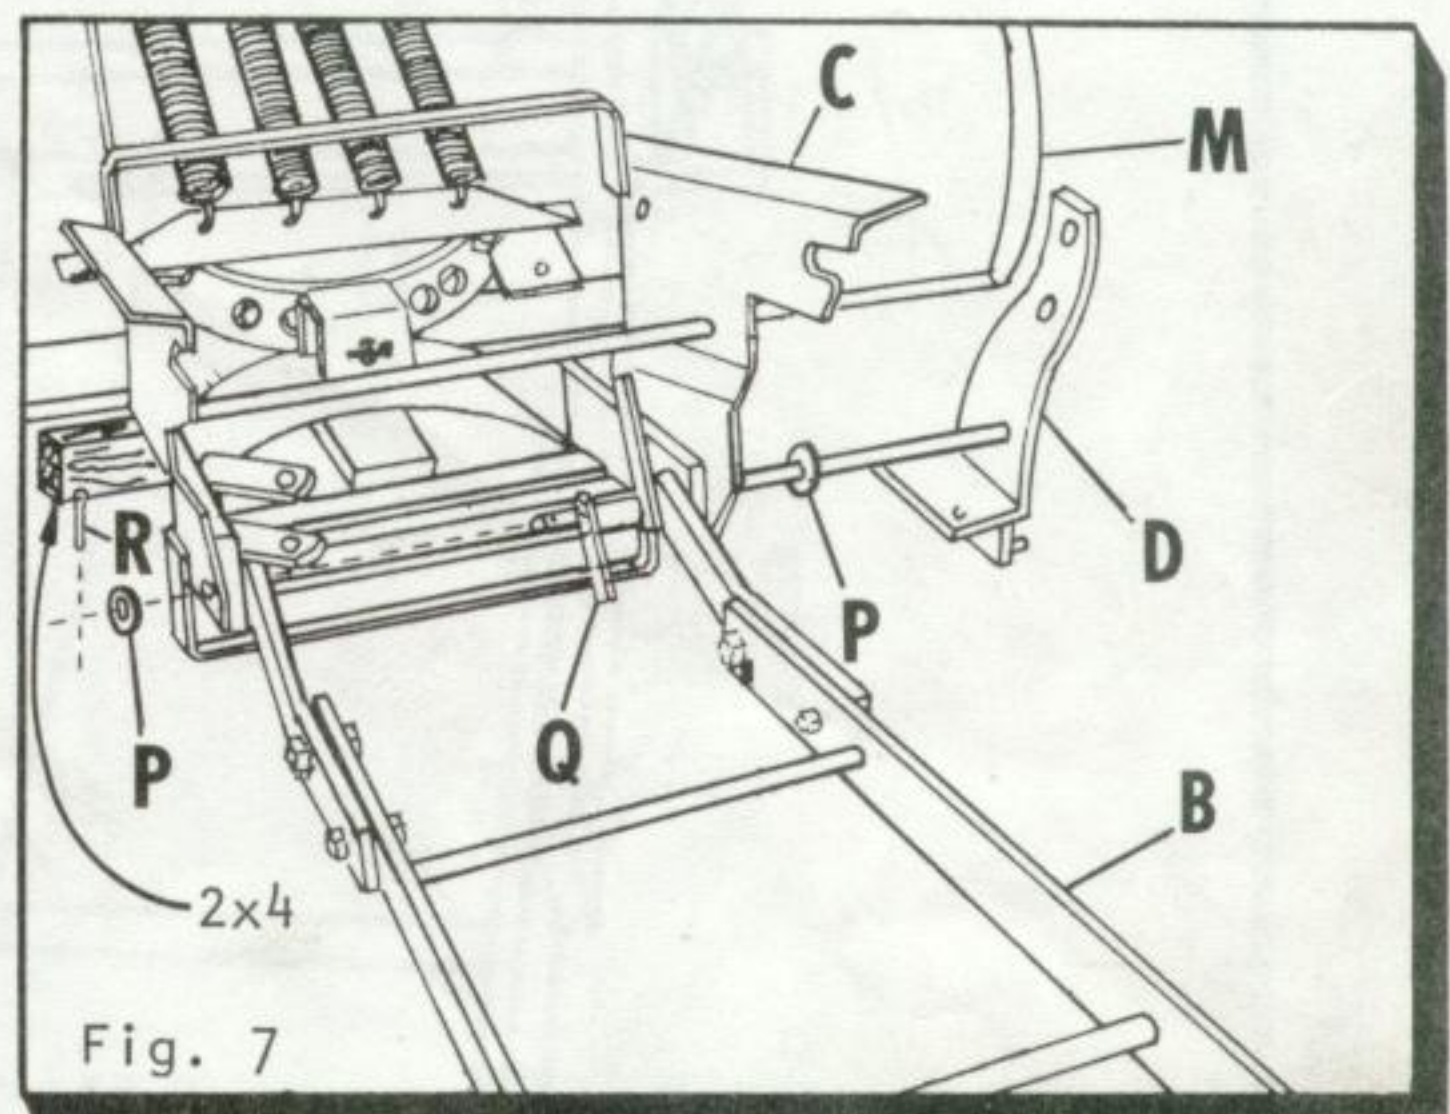

Fig. 7
NOTE: Set unit on 2 x 4 board approximately 12" long for this operation in setup. (See Fig. 7)
1. Place front mounting frame (C), rear mounting frame (B) and dozer blade (M) together as shown in Fig. 7.
2. Assemble washer (P) onto lift arm assembly (D).
3. Slide lift arm assembly (D) through on side.
4. Assemble bell crank (Q) onto lift arm assembly (D) with short leg to inside of frames.
5. Slide lift arm assembly (D) through other side of frames.
6. Secure with washer (P) and cotter pin (R).